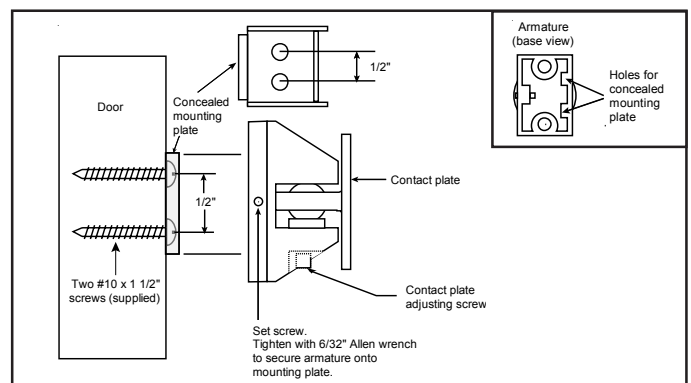

Figure 6. Surface Concealed Mounting
- Surface concealed mounting (Figure 6).** Measure two points for 1/8" holes drilled 1/2" on center equidistant from each marked point. Center punch the holes and drill 1/8" diameter x 1 1/4" deep. Install the concealed mounting plate using the two #10 x 1 1/2" screws provided.
Align the holes for the concealed mounting plate in the armature base with the pins on the concealed mounting plate. Secure the armature assembly, with the contact plate adjust screw facing down, to the door by tightening the set screw as shown in Figure 6.